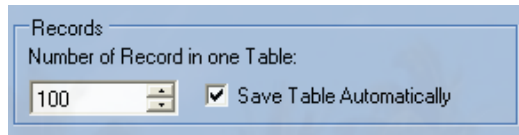

Figure 24 Records option
- ✓ Records section allows users to set the number of rows in the table (Figure 24).
- ✓ Check option for **Save Table Automatically** to enable or disable auto saving of data in the table (Figure 24).